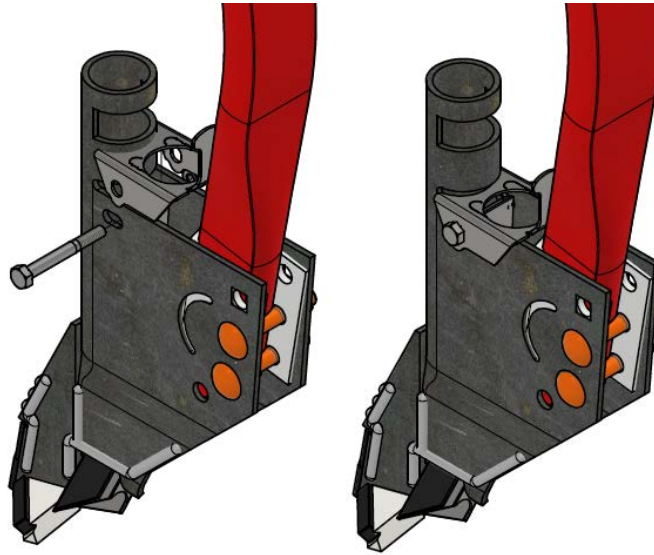

Figure 4: Install opener top
- 2) Install the provided stainless steel top on the opener using the $\frac{1}{4}$ " x 2 $\frac{1}{4}$ " bolt and locknut. Remove knock-outs from the top as seen in Figure 4.